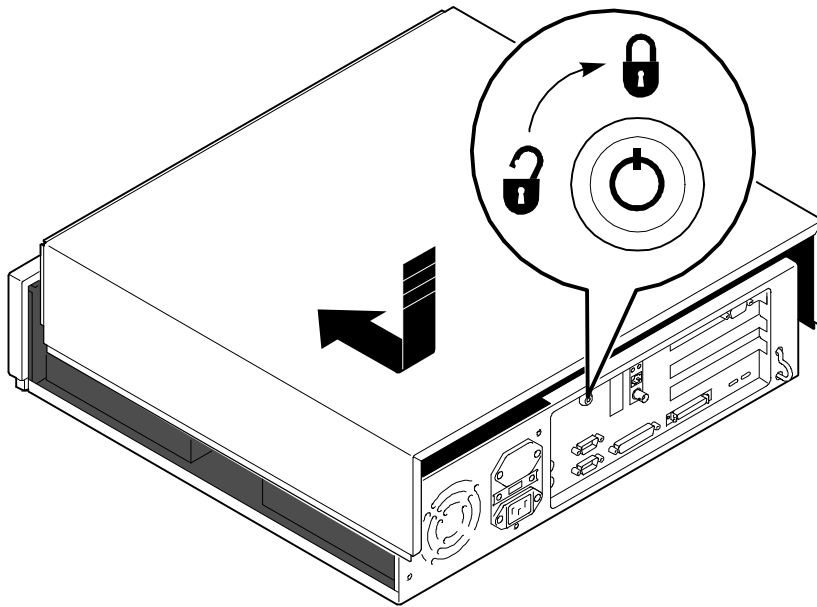

Figure 4-23 Replacing the Locking System Cover
4. Lock the system cover, as Figure 4-23 shows.